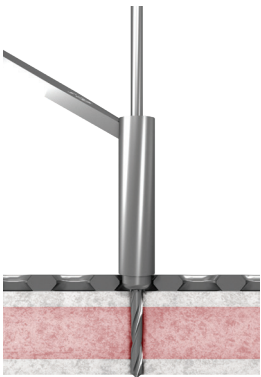

Figure 1
- 4. Drill for the first screw fastener in the neutral position (Figure 1) with the appropriate drill bit for the screw size selected.